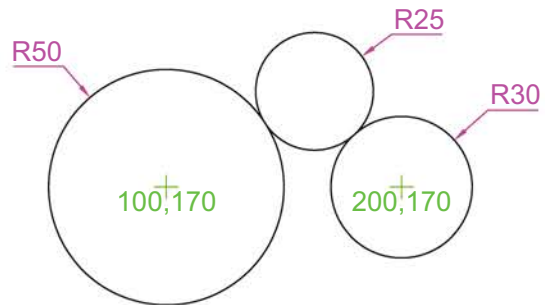

Fig. 3.31 Exercise 4
4. Using the **Circle** tool, construct the two circles of radius **50** and **30**. Then, using the **Ttr** prompt, add the circle of radius **25** (Fig. 3.31).